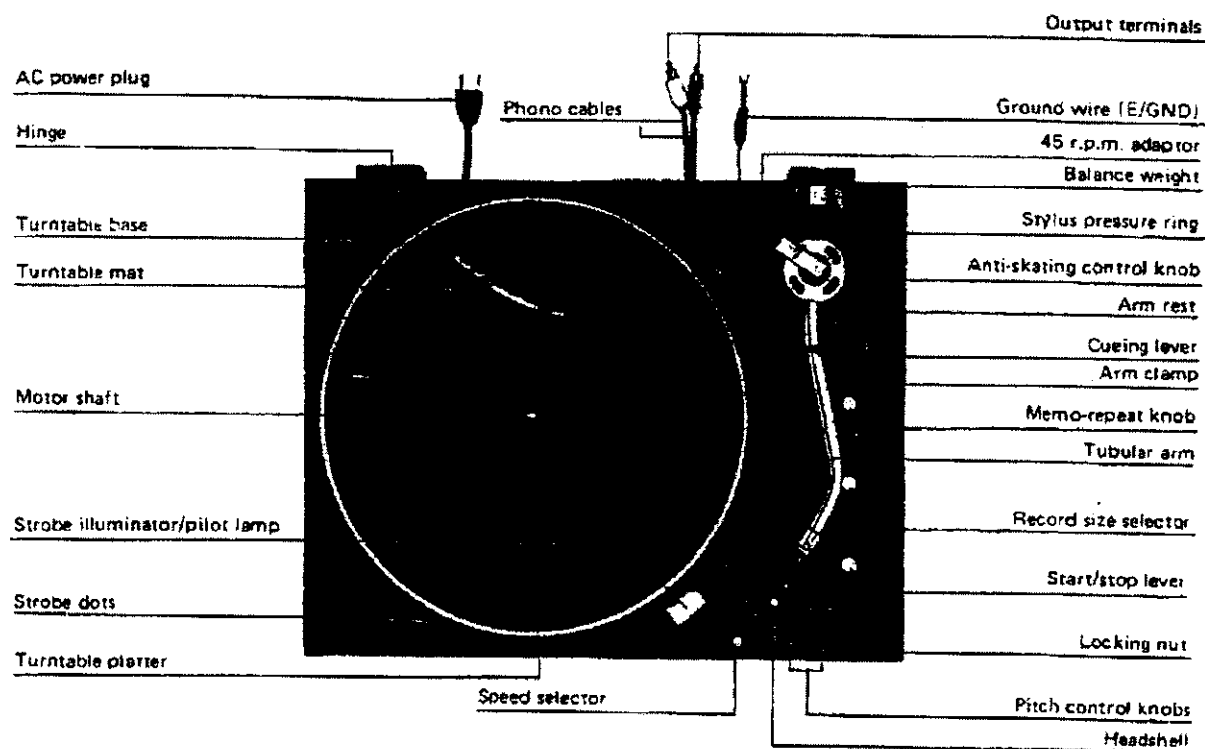

Fig. 1
- 2) Make sure that speed selector is in the "1" position, the balance adjustment is easily made as the turntable platter remains stationary. (See Fig. 1).
- 4) Make sure that the "memo-repeat" knob is located at the "0" position. (See Fig. 1).